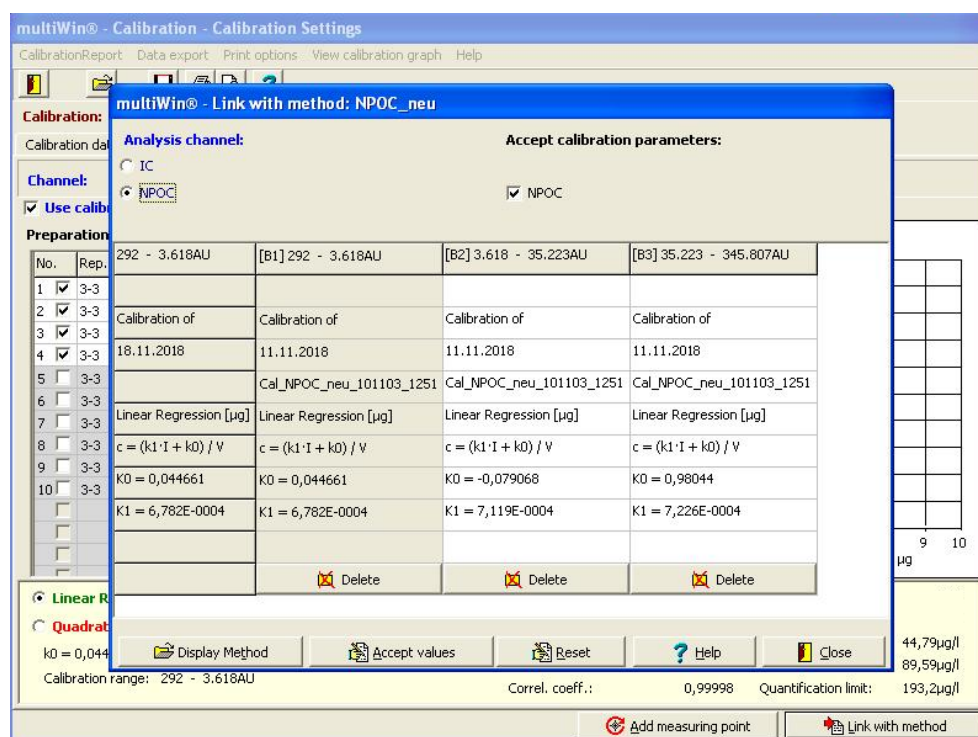

Fig. 50 Window Link with method with three areas
- A seamless linking means that the top end of the area of one calibration range corresponds to the bottom end of the area of the next calibration range (see Fig. 50 table, first line)